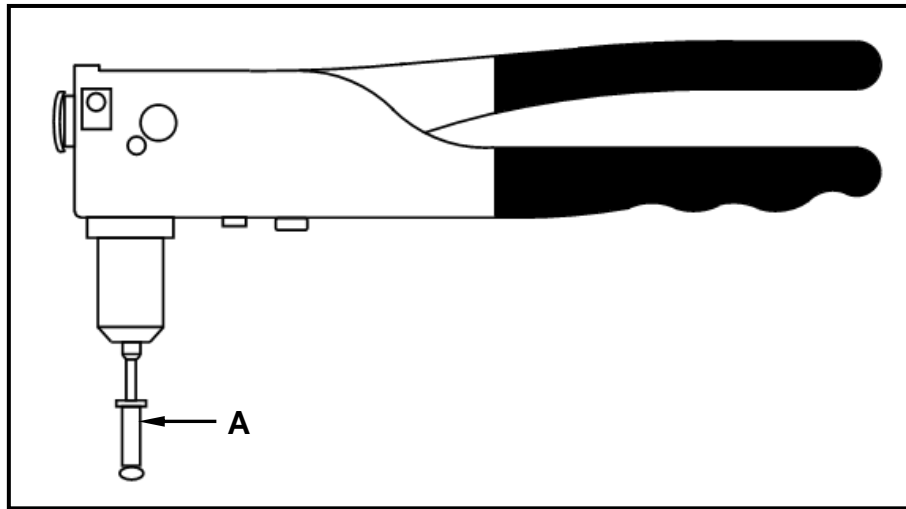

FIGURE 6.2
- D None of the above-mentioned (1)
6.2 FIGURE 6.2 below shows a method used to join two or more materials together. Study the drawing and answer the questions that follows.
- 6.2.1 Identify the tool illustrated in FIGURE 6.2. (1)